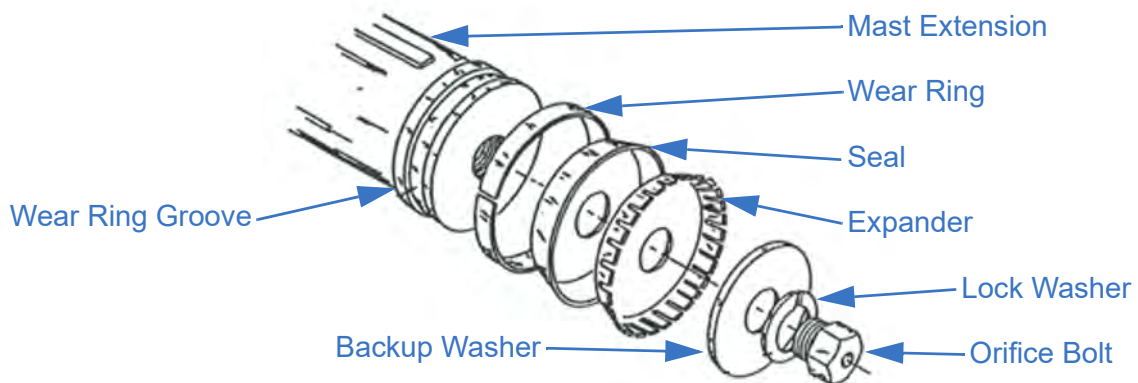

Figure 8-4 Seal Area (Heavy Duty and Super Heavy Duty)
6. Remove the orifice bolt, lock washer, backup washer, expander, and seal from the bottom of the tube. Note the orifice bolt ID and corresponding tube for use when reassembling (Figure 8-4).